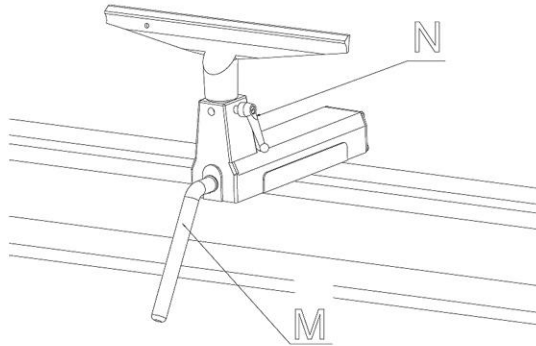

Fig 7.
- Tool Rest Body Lock Handle:** (M, Fig. 7) Locks the tool rest body in position. Unlock handle to position the tool rest in any location along lathe bed. Tighten handle when properly positioned.
- Tool Rest Lock Handle:** (N, Fig. 7) Locks the tool rest in position. Unlock the handle to position tool rest at a specific angle, or height. Tighten handle when properly positioned.